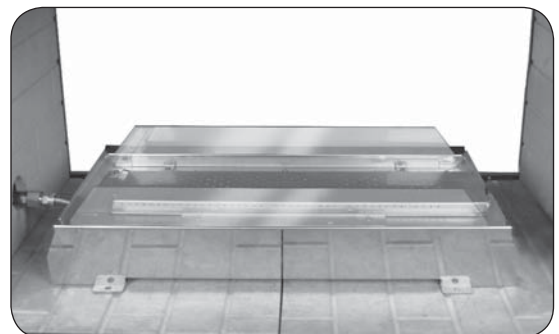

Fig. 7-4 Front cover installed
10. Remove the protective coating off of the reflective front covers. **DO NOT** use a sharp object to remove coating. Install the covers onto each side of the burner system (see Fig. 7-4).